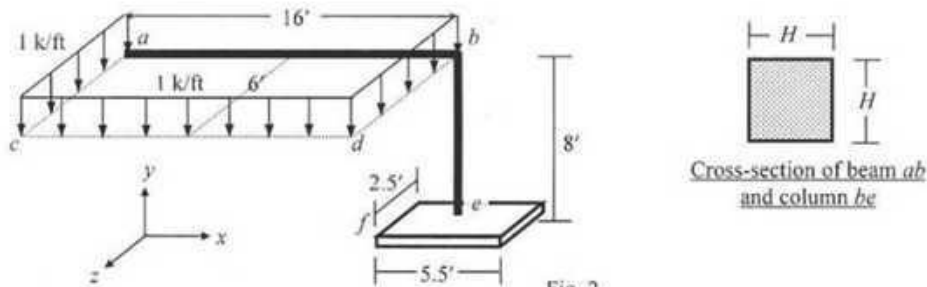

Fig. 2
2. Fig. 2 shows beams  $ac$ ,  $cd$  and  $db$  carrying uniformly distributed loads of 1 k/ft, and supported by square-shaped beam  $ab$  and column  $be$ .
3. For the frame structure shown in Fig. 2, calculate the
- (b) For the water shooting out of the pipe and nozzle under conditions shown in Figure 2 determine the height above nozzle to which water will "shoot" (i.e. distance  $h$  in Figure 2). Assume no head loss. (12)